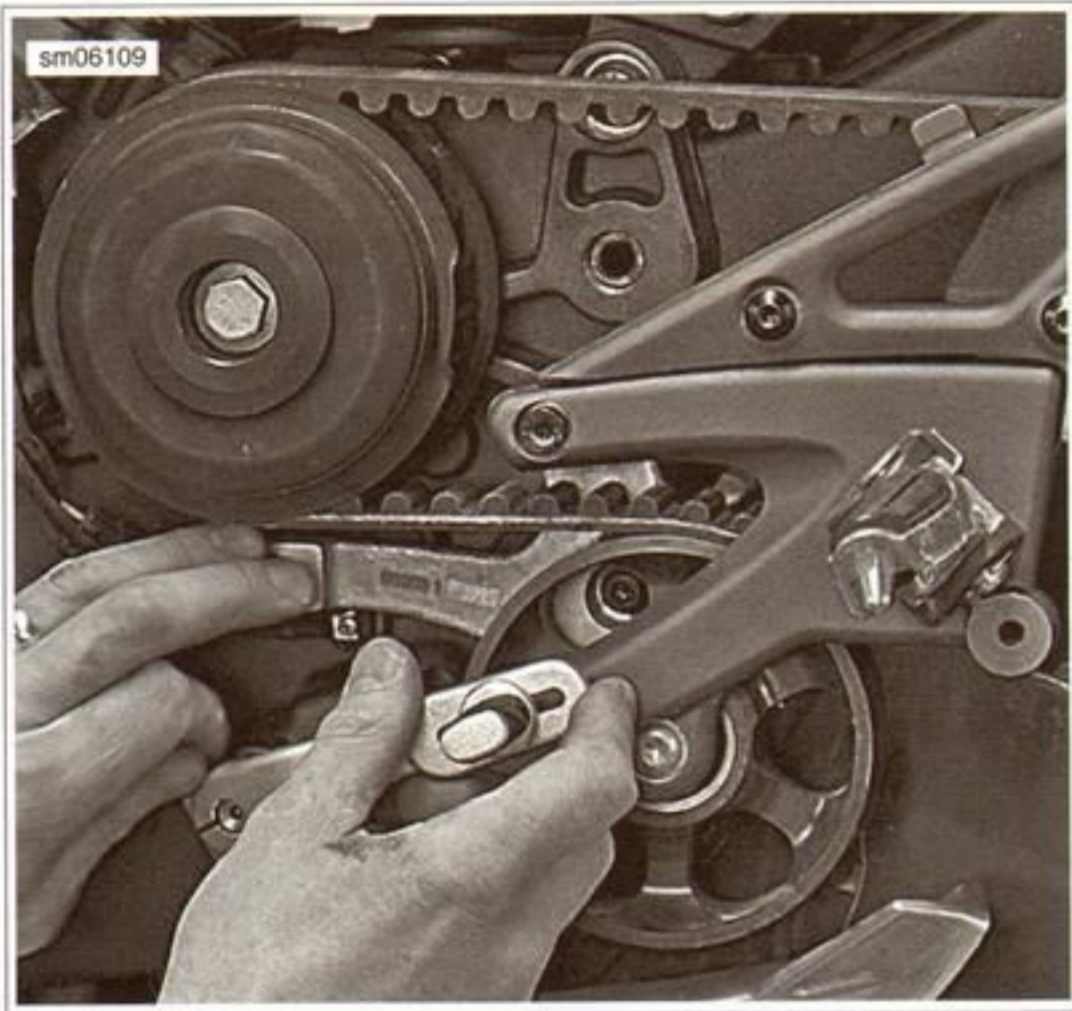

Figure 3-24. Shift Lever
4. See Figure 3-24. Note its position and remove the shift lever.